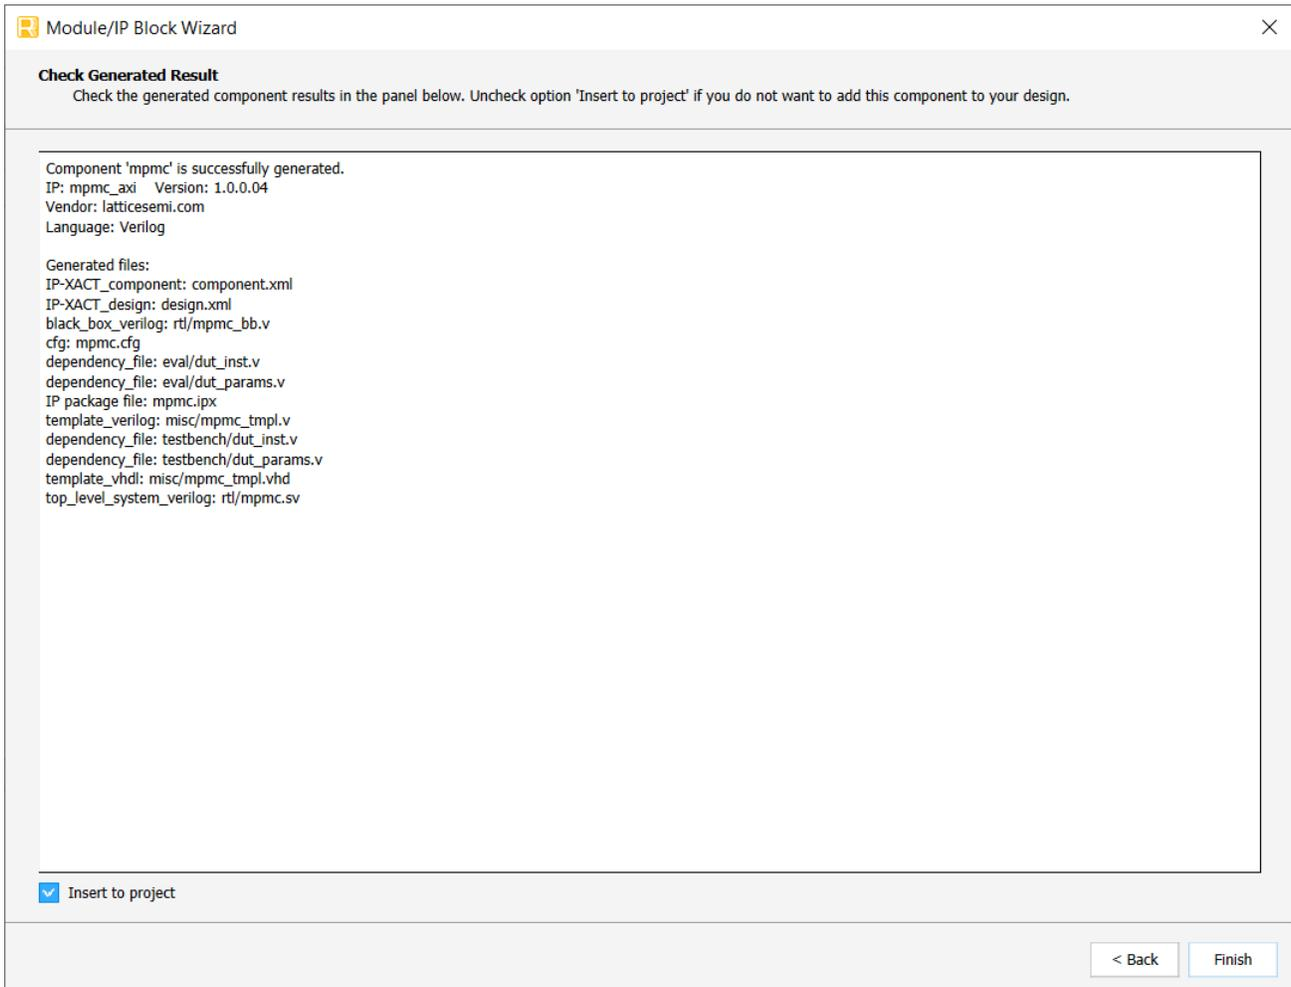

Figure 6.7. Check Generated Result Window
- Click **Generate**. The **Check Generated Result** dialog box opens, showing design block messages and results as shown in Figure 6.7.